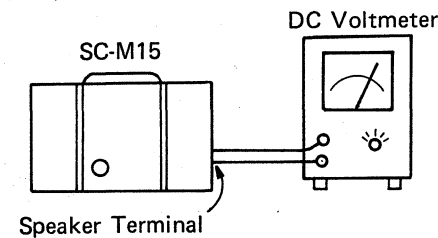

Figure 8.
2. Connect the DC voltmeter to speaker terminal A and check the meter oscillation is kept within from +20mV to -20mV. See figure 8.